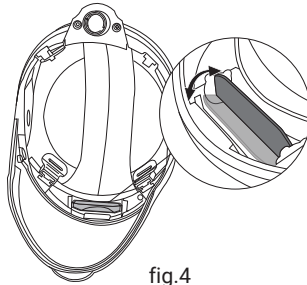

fig.4
- Toggle forehead air flow direction adjustment plate to adjust direction of the airflow in face shield to ensure comfortable wearing (2 gears adjustable) (See fig.4)